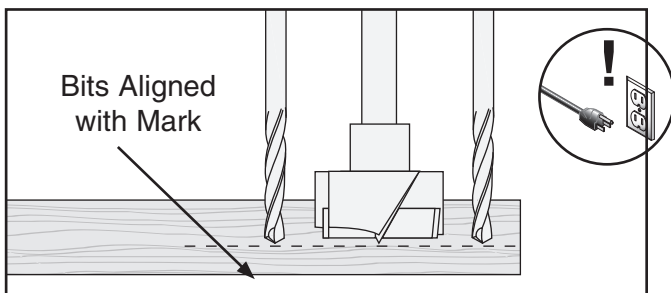

Figure 39. Bit aligned with depth mark.
4. Lower the boring head, then turn the depth adjustment knob as needed until the cup bit or a pilot bit is aligned with the mark on the scrap board (see **Figure 39**), then remove the scrap board.